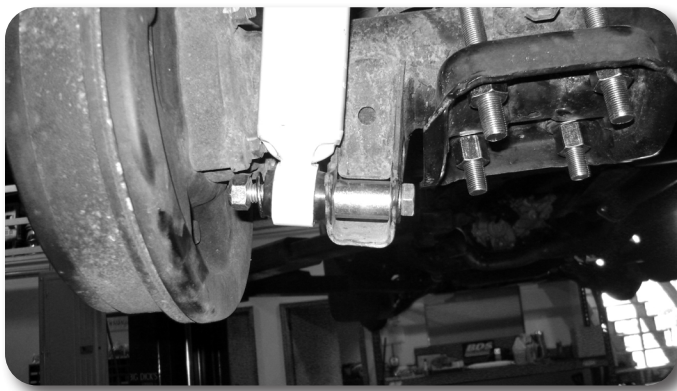

Figure 3
11. Position the shock eye on the outside face of the factory axle mount. Place the provided 7/8" x 1-1/4" steel spacer in the factory mount. Fasten all the components with the provided 12mm x 100mm bolt, nut and washers. Torque bolt to 55 ft-lbs. **Figure 3**